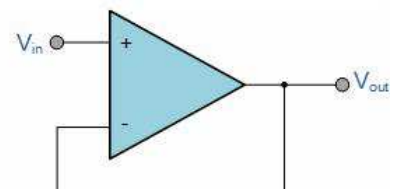

Figure 10
- 1- Construct the Op-Amp circuit as shown in the Figure 10